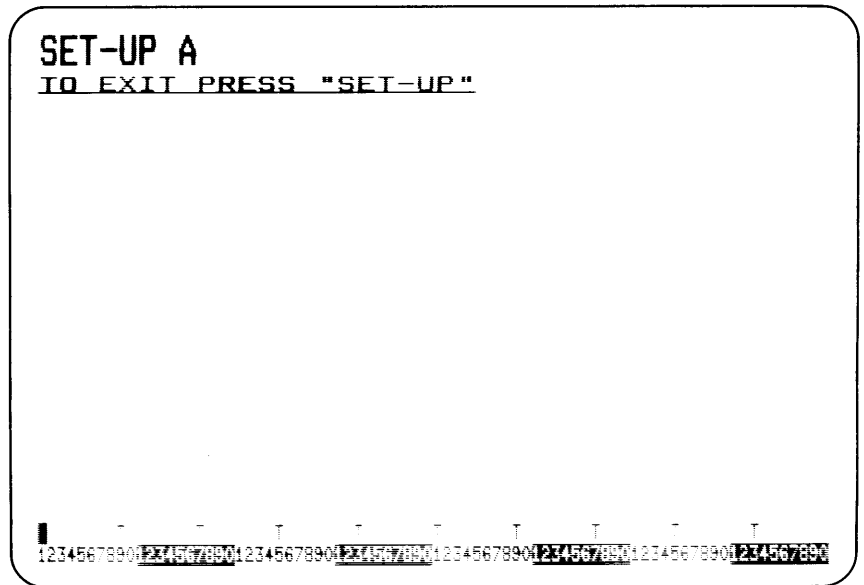

Figure 4. Setup A Display
You can enter setup mode at any time by pressing the SETUP key at the upper left corner of the MiniMINC keyboard. This causes the Setup A display to appear on the screen, as shown in Figure 4. At this point, all transmissions from MiniMINC to the
Be careful with the SHIFT/S key. Do not save setup mode parameters unless you are sure that they will not interfere with the needs of other users of the MiniMINC system. See Figures 4 and 5 for standard MiniMINC parameters.
* Restoring previously saved setup conditions. The SHIFT/R key RESTORES to control memory whatever operating parameters have been previously saved — in the case of a new machine on which no variant parameters have been saved, those shown in Figures 4 and 5.
Now return your terminal to normal operation by pressing the SETUP key again. Be sure that you have left all the setup mode parameters in their required states (see Figures 4 and 5).